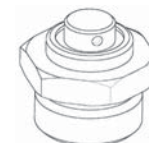

Fig. 3 3 bar valve
- The 3BAR valve (Fig. 3) must be installed on the top part of the towel rail. In case of 'Dual fuel' installation, a T-piece of 40mm maximum length (male thread excluded) is required.
- The Spacer (B) must not be hit, moved or removed during the installation of the towel heater (electric only ATLANTIS installation).